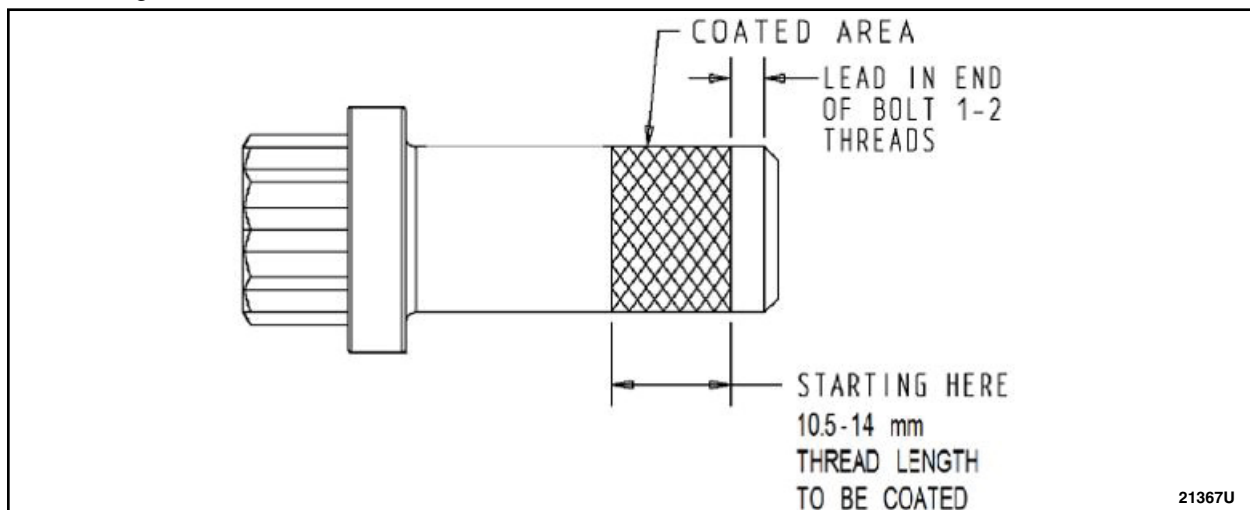

FIGURE 15
25. Inspect the original driveshaft flange to pinion flange bolts for rust in the threads and replace if rusted or damaged. Clean threads of the original driveshaft flange to pinion flange bolts with a wire brush and coat the threads with LOCTITE 243 Blue Medium Strength Threadlocker or equivalent. See Figure 15.